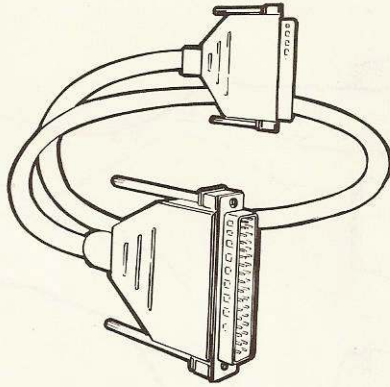

Fig. 5 Input/output cable
| Figure 5 | I/O Cable 1 - 6 |
- * The input/output (I/O) cable, depicted in Figure 5.